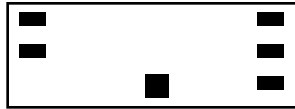

Figure 5-10
- Install caps on switches S1 through S6. S3's cap is square, while the others are rectangular, as shown in Figure 5-10. The caps are installed by pressing them onto the switch plungers.